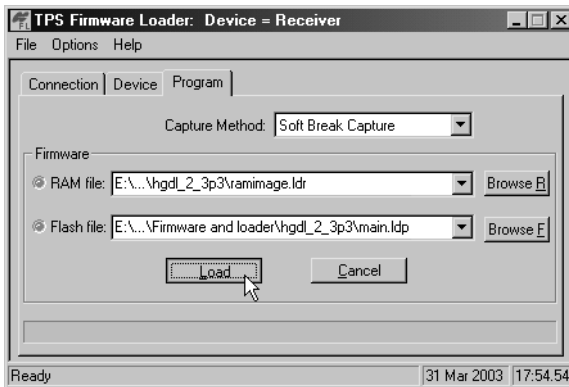

Figure 4-19. Program Tab Settings
2. Click the *Program* tab and set the *Capture Method* to Soft Break Capture (recommended) (Figure 4-19).
3. Browse for and select the receiver board's RAM file and Flash file (Figure 4-19).